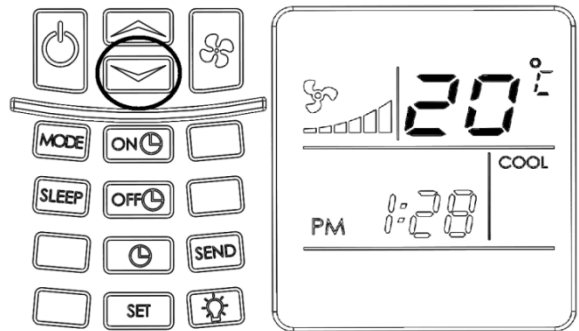

Figure 21 - Decrease SET POINT temperature
- Decrease the set point temperature below the room temperature by pressing the TEMPERATURE DOWN button. Figure 21. The compressor will start within three minutes. Run unit until you can feel cool air from plenum outlets.
- Press TEMPERATURE UP / DOWN for your required set point temperature. (Figure 21)